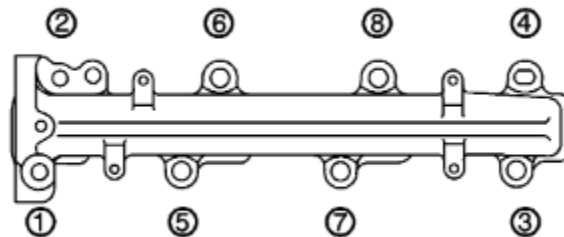

Fig. 26: Passenger side exhaust manifold fasteners
- c) Repeat steps 16a and 16b for the passenger side exhaust manifold. Remove the nut and bolts in the sequence shown in Fig. 26.